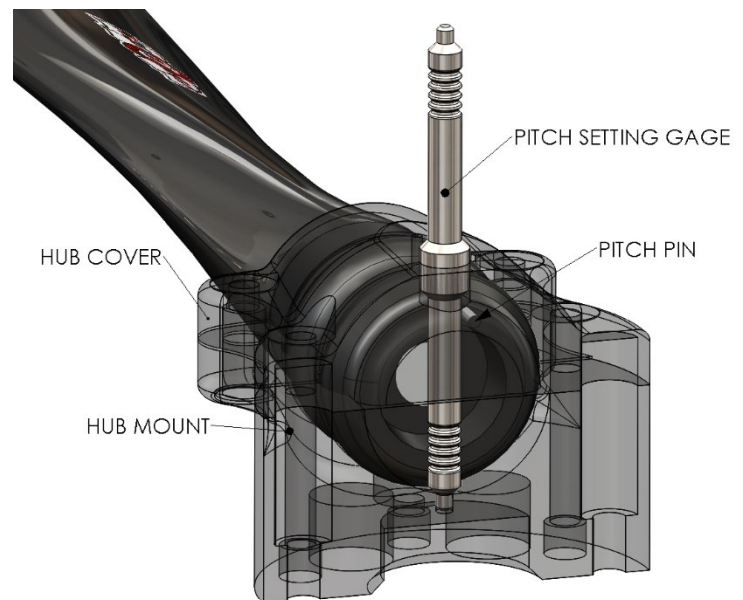

FIGURE 3. PITCH SETTING GAUGE DETAIL
8. Insert the pitch setting gauge through the clearance hole in the hub cover half and into the receiving hole in the hub mount half. See **Figure 3**. Be sure to use the nominal setting of 4 to start. The pitch setting # indicates relative pitch; pitch 5 is higher pitch than pitch setting 4, etc...
4. Insert the desired pitch setting gauge thru the clearance hole in the hub cover half and into receiving hole in the hub mount half. See **Figure 3.**